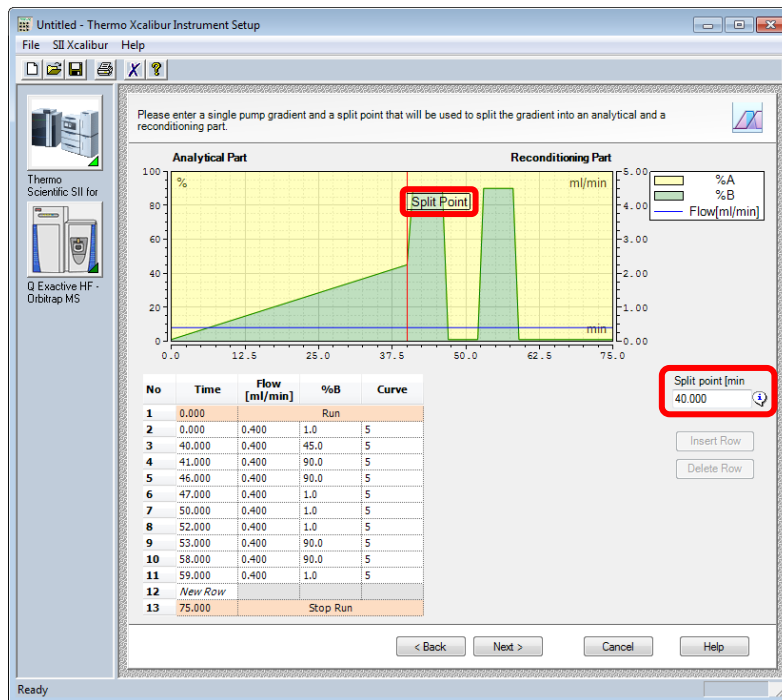

Figure 13: Single pump method
- c. The following step is converting the previously defined single pump method into a Tandem LC method (Figure 13). The gradients for the Reconditioning- and Analytical Pump can be modified if required. The wizard is automatically adding a void volume purge section to the analytical gradient, which is required to purge the system fluidics for the next injection. The required time is automatically calculated and depends on flow rate, used modules and fluidics. The automatic calculation is based on the capillaries provided in the Vanquish Duo for Tandem LC Kit (P/N 6036.2020).